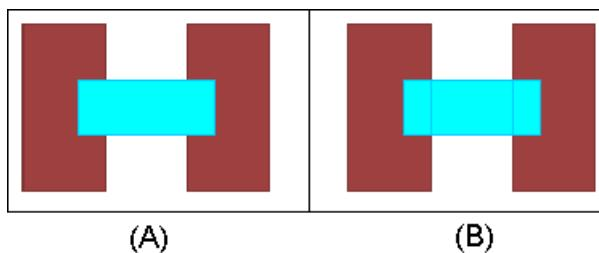

Figure 16.3: Example of Bad Faces (A) and Good Faces (B)
3. Coplanar faces must not cover more than one face, and may need to be broken up to meet this requirement. Figure 16.3 shows an example of overlapping faces (A), and the corrected face split into three faces (B).